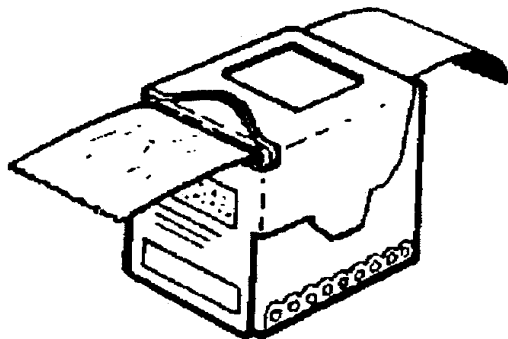

Figure 5-7. M9 Paper
c. Use M9 chemical agent detector paper (Figure 5-7) to detect the presence of liquid chemical agents. It does not detect chemical agent vapor. The paper indicates the presence of a nerve agent (G and V) or a blister agent (H and L) by turning a red or reddish color. Because of this, read M9 paper with only a white-light source. The self-adhesive M9 paper attaches to most surfaces. When attaching it to clothing, place it on the upper portion of your right arm, left wrist, and either your left or right ankle to allow adequate representation of contamination encountered. When placing it on a piece of equipment, ensure the location is free of dirt, oil, and grease, and place the paper where it will not be stepped on. It is advised that M9 paper that has been placed on equipment be removed before DS2 is sprayed over it; if that is not done, it becomes almost impossible to remove the paper. The M9 paper is usable in any weather, in temperatures above 32F (0C). However, exposure to extremely high temperatures may produce false readings. Scuffs, certain types of organic liquids, and DS2 also cause false readings. DS2 turns M9 paper blue. If the paper shows spots or streaks of pink, red-brown, red-purple, or any shade of red, assume it has been exposed to a chemical agent. See TM 3-6665-311-10 for further information.